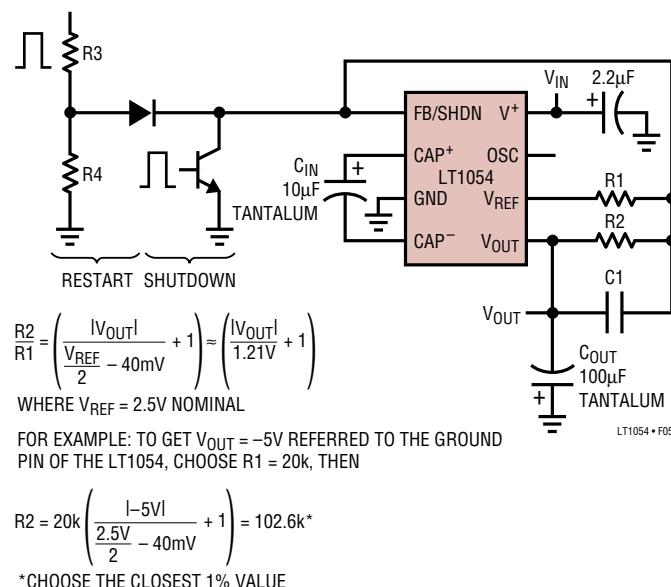

Figure 5
**FB/SHDN (Pin 1):** Feedback/Shutdown Pin. This pin has two functions. Pulling Pin 1 below the shutdown threshold ( $\approx 0.45V$ ) puts the device into shutdown. In shutdown the reference/regulator is turned off and switching stops. The switches are set such that both  $C_{IN}$  and  $C_{OUT}$  are discharged through the output load. Quiescent current in shutdown drops to approximately  $100\mu A$  (see Typical Performance Characteristics). Any open-collector gate can be used to put the LT1054 into shutdown. For normal (unregulated) operation the device will start back up when the external gate is shut off. In LT1054 circuits that use the regulation feature, the external resistor divider can provide enough pull-down to keep the device in shutdown until the output capacitor ( $C_{OUT}$ ) has fully discharged. For most applications where the LT1054 would be run intermittently, this does not present a problem because the discharge time of the output capacitor will be short compared to the off-time of the device. In applications where the device has to start up before the output capacitor ( $C_{OUT}$ ) has fully discharged, a restart pulse must be applied to Pin 1 of the LT1054. Using the circuit of Figure 5, the restart signal can be either a pulse ( $t_p > 100\mu s$ ) or a logic high. Diode coupling the restart signal into Pin 1 will allow the output voltage to come up and regulate without overshoot. The resistor divider R3/R4 in Figure 5 should be chosen to provide a signal level at pin 1 of 0.7V to 1.1V.
The error amplifier of the LT1054 servos the drive to the PNP switch to control the voltage across the input capacitor ( $C_{IN}$ ) which in turn will determine the output voltage. Using the reference and error amplifier of the LT1054, an external resistive divider is all that is needed to set the regulated output voltage. Figure 5 shows the basic regulator configuration and the formula for calculating the appropriate resistor values.  $R_1$  should be chosen to be
REFER TO FIGURE 5
$$\frac{R2}{R1} = \left( \frac{|V_{OUT}|}{\frac{V_{REF}}{2} - 40\text{mV}} + 1 \right) = \left( \frac{|V_{OUT}|}{1.21\text{V}} + 1 \right), \quad \text{REFER TO FIGURE 5}$$